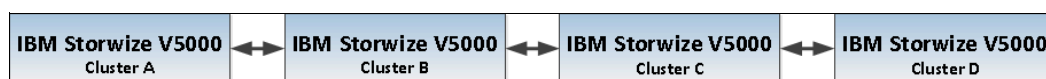

Figure 10-74 Daisy chain partnership topology for IBM Storwize V5000
- ▶ Daisy-chain topology, as shown in Figure 10-74.